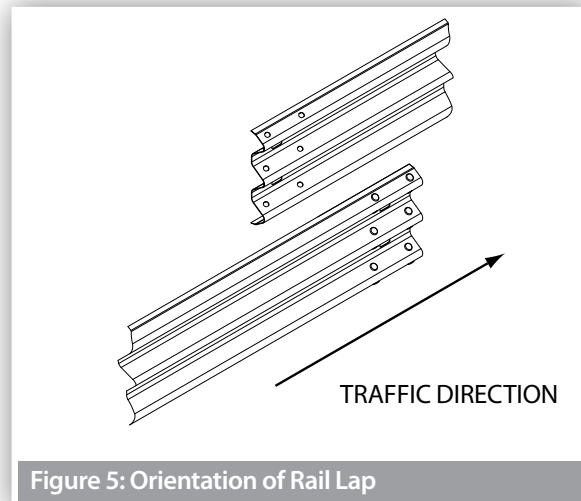

Figure 5: Orientation of Rail Lap
11. The first rail is connected to the concrete via the three-beam structural connector. The lapping of the splice joint should follow figure 5 and uses twelve M16x32 splice bolts/nuts.